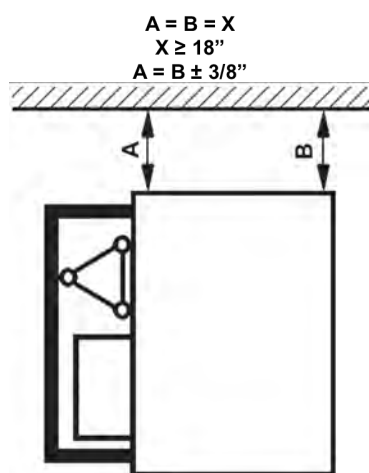
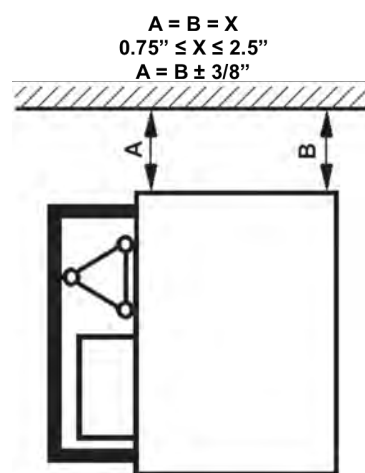

Figure 6.4
Figure 6.5
- **this distance must not be less than 18 in. if installing the unit as a Transport Platform as indicated in ANSI/SAIA A92.10 as shown in figure 6.4 (if using landing doors for a transport platform supplied by BETA MAX set the unit 24 inches from the building for the door to function properly) or if installing the unit as a Material Hoist is not greater than 2.5 in. as shown in figure 6.5 in order to ensure the loading unit passes through with no difficulty and no risk of collision**